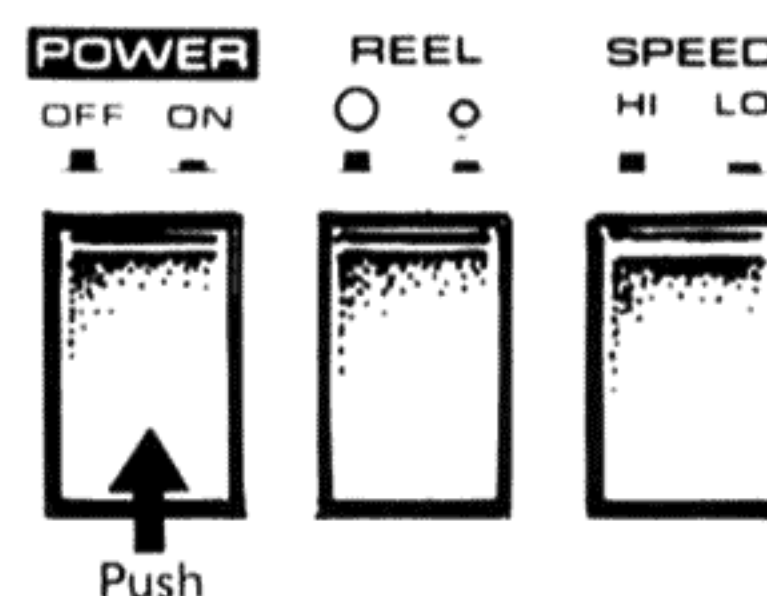

Fig. 26
2. Push the POWER switch to turn the unit on (Fig. 26).
3. Confirm that the REEL SIZE switch is set correctly. When using 7-inch or smaller reels, push the switch down. For 10-inch reels, do not push it down. When locked, the switch can be released by pushing it once again. Always confirm that the REEL SIZE switch is in the correct position. Wrong setting can impair the tape transport or cause the tape to be wound too tightly or even damaged. Refer to Fig. 26.
4. With the TAPE SPEED selector select the desired tape speed (Fig. 26).